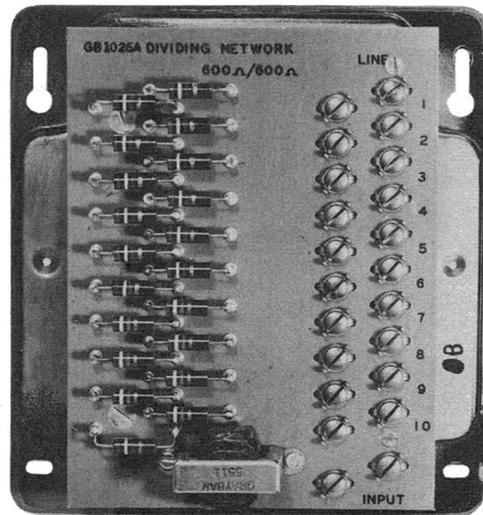

Figure 69 - GB-1026A Dividing Network
4.17 The GB-1026A dividing network provides from two to ten 600-ohm outputs from one 600-ohm input. The loss from the input to any output is 18 db. It consists of a 5-1/8" by 6-3/4" linen base phenolic panel arranged to mount in a 105B apparatus box. It contains a 600-ohm to 16-ohm coil (GB-5511) on the input and two 245-ohm resistors on each output. (Figure 69)